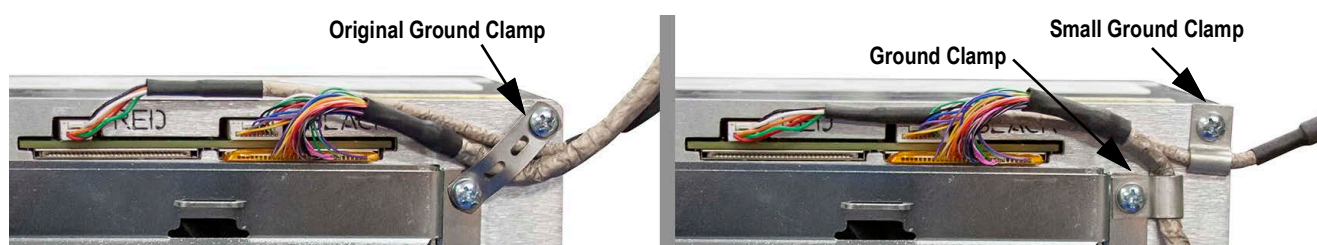

Figure 2-19. Controller Box Shield Grounding
7. Remove the original ground clamp used on both the display and touchscreen cables, see Figure 2-19 on page 33.